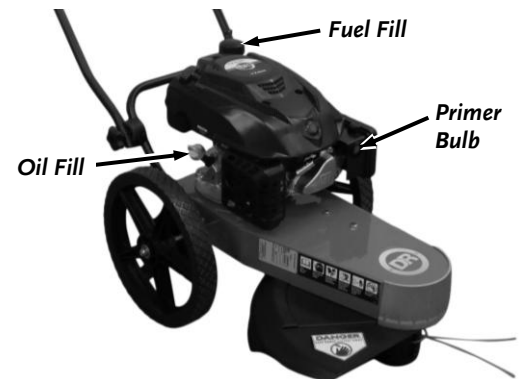

Figure 9
1. Check the oil level every time you use the DR TRIMMER/MOWER (**Figure 9**).
1. Push the Primer Bulb in and release 3 times (**Figure 9**).